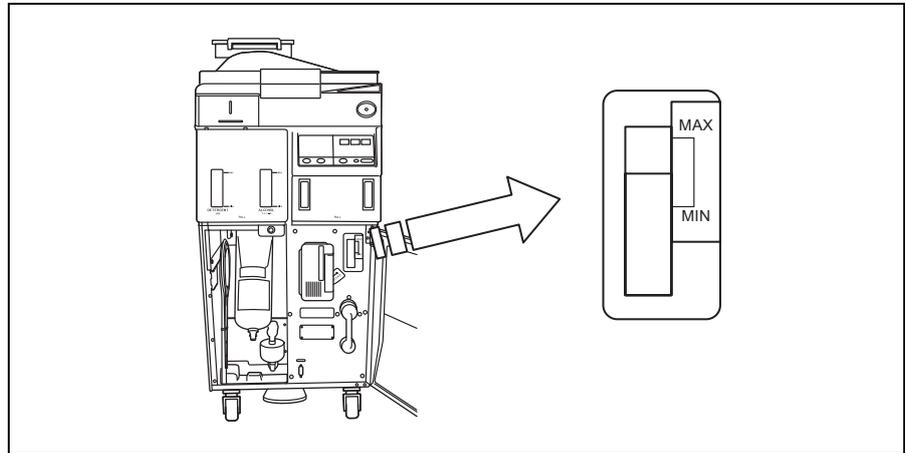

Figure 7.82
7. When the beeps increase in frequency, the level of disinfectant solution is nearly full. Stop pouring the disinfectant solution and check the disinfectant solution indicator located at the front of the equipment and slowly add more solution (see Figure 7.82).